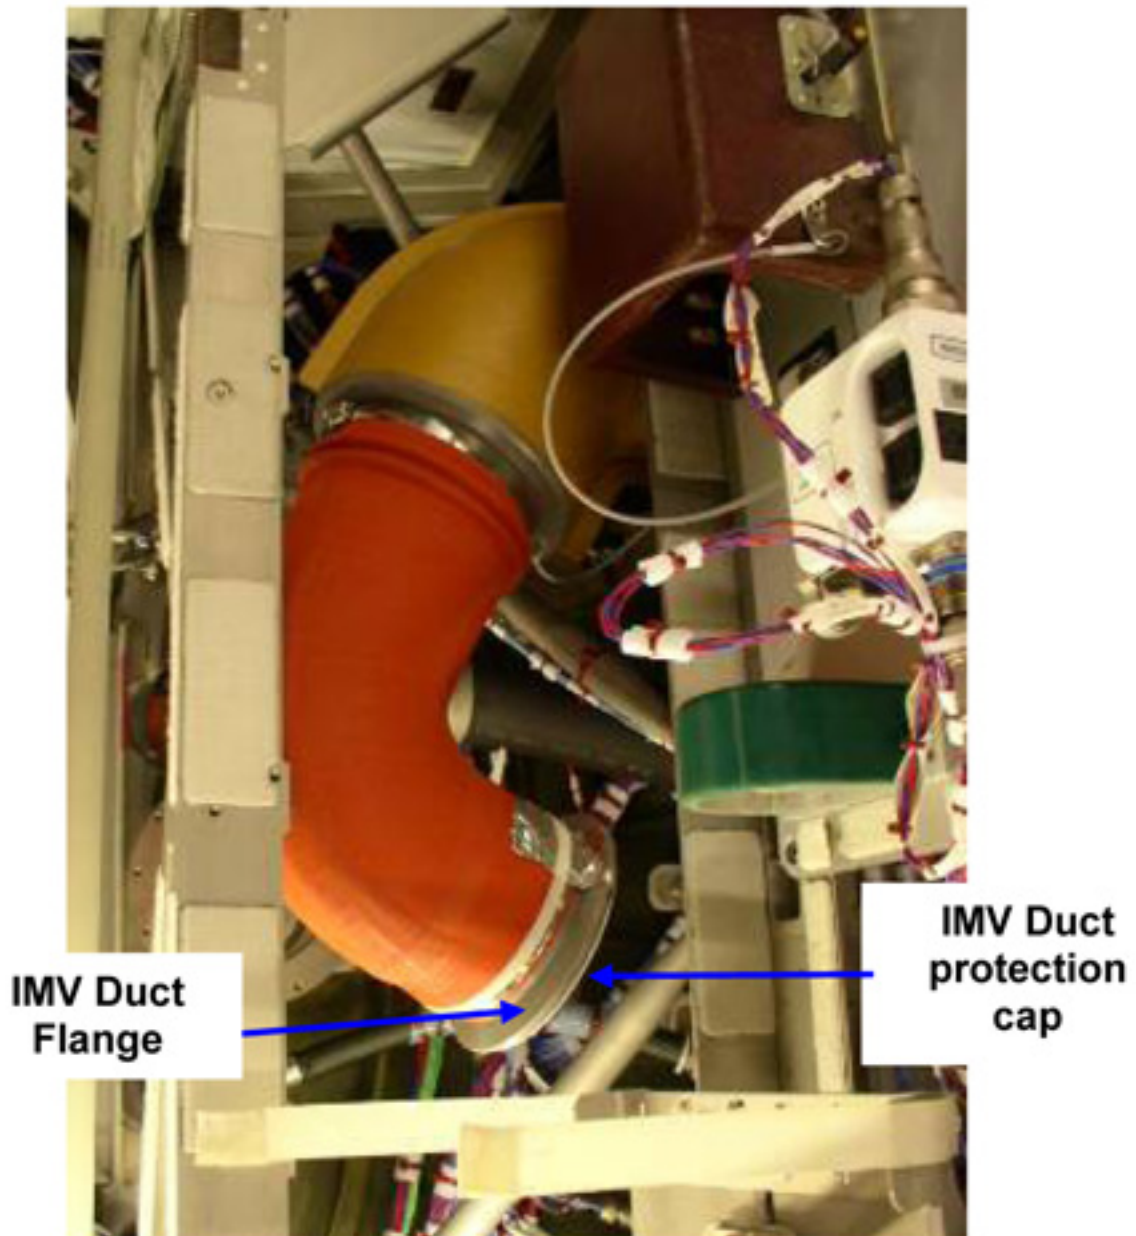

Figure 6. IMV Duct Flange
- 2.1 Remove the seal protection cap on the IMV Duct Flange. Temporary stow. Refer to Figure 6.